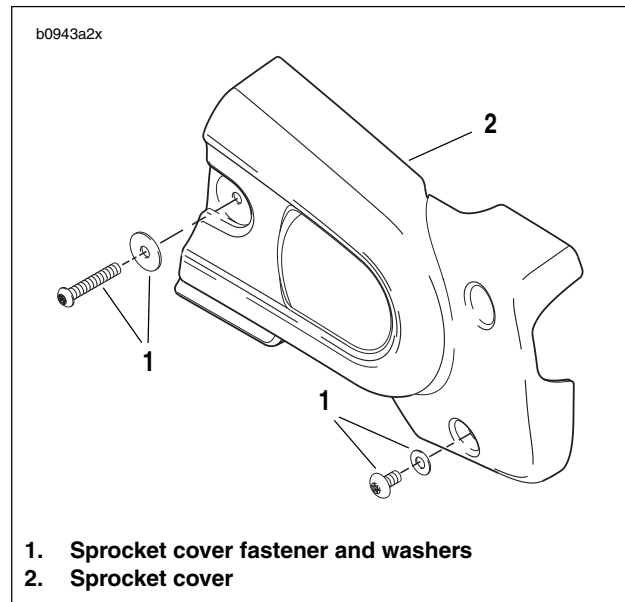
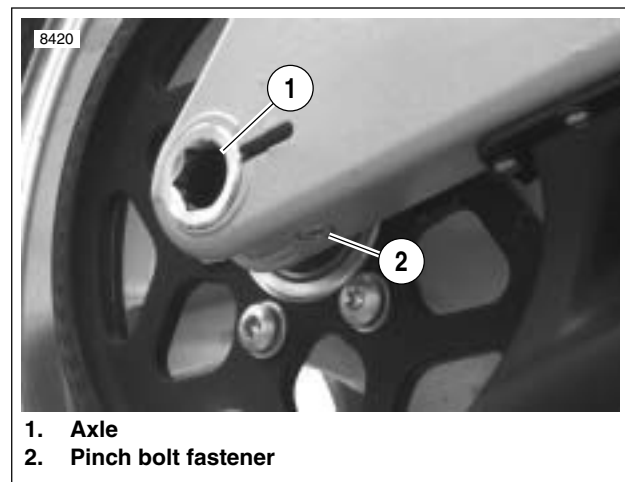

Figure 6-37. Sprocket Cover
Figure 6-38. Rear Wheel Mounting, Right Side
4. See Figure 6-37. Remove front sprocket cover (5) by removing fasteners. See 2.31 SPROCKET COVER.
5. See Figure 6-38. Loosen rear axle pinch fastener (2).
6. Loosen rear axle (1) approximately 15 rotations to allow partial tension to be removed from rear drive system.
8. See Figure 6-38. Tighten rear axle (1) to 23-27 ft-lbs (31.2-36.6 Nm), back off two full turns and then retighten to 48-52 ft-lbs (65.1-70.5 Nm).
9. Tighten rear axle pinch fastener (2) to 40-45 ft-lbs (54-61 Nm).
10. See Figure 6-37. Install front sprocket cover (2) by tightening fasteners to 12-36 in-lbs (1-4 Nm). See 2.31 SPROCKET COVER.